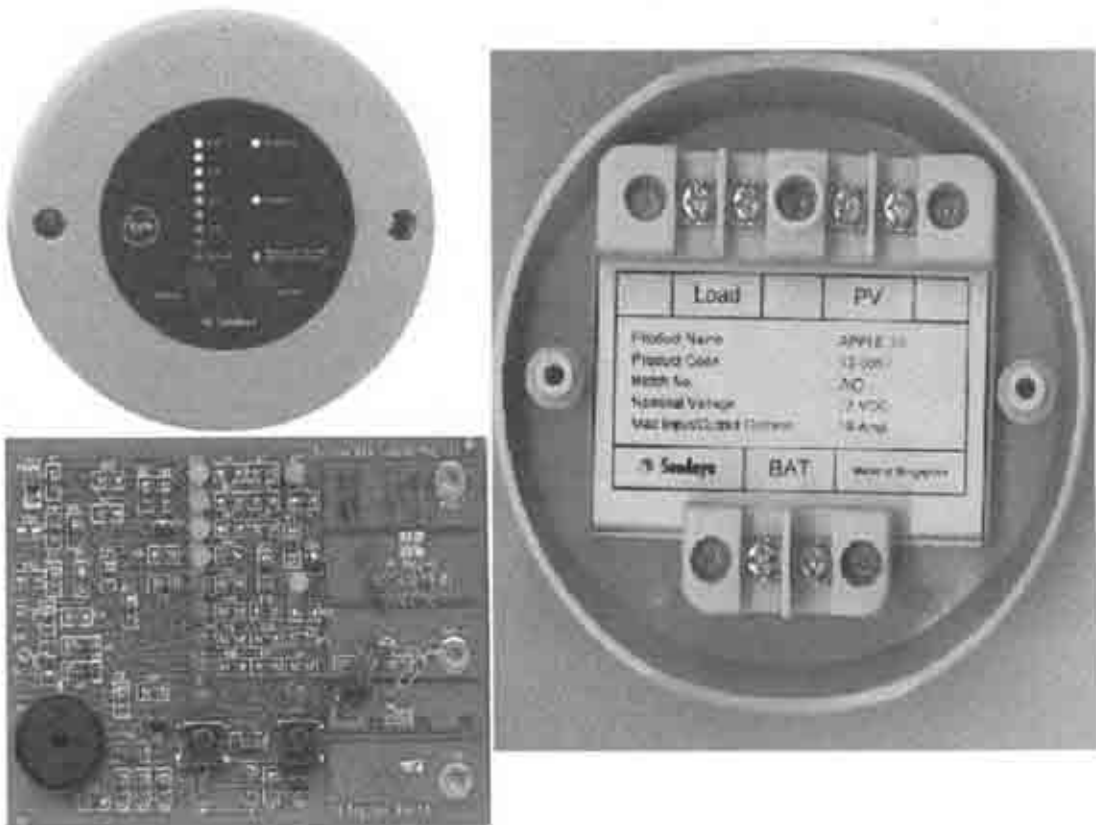

Figure 1
- A picture of sample is shown in Figure 1